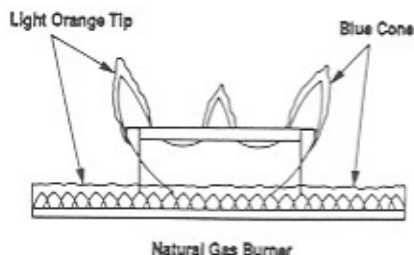

Figure 36
To obtain proper operation, it is imperative that the pilot and main burner flame characteristics are steady, not lifting or floating, and be blue in color (Figure 36).
Approximately the top 3/8" at the pilot generator (thermopile) should be engulfed in the pilot flame (Figure 36).
2. Adjust pilot screw to provide properly sized flame (Figure 36).